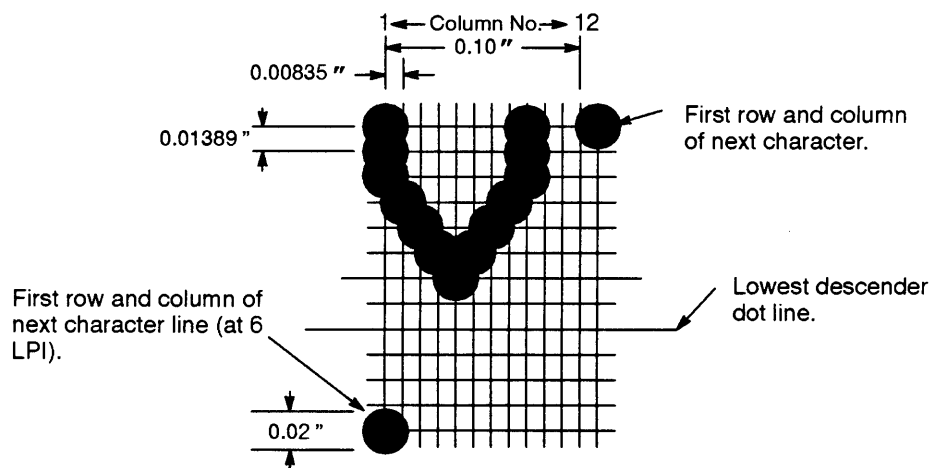

Figure 3–1. A Dot Matrix
Every text character is stored in memory as a pattern of dots on a logical grid called the *dot matrix*. (See Figure 3–1.) The actual ink dots are made by a row of hammer springs mounted on a shuttle that sweeps rapidly back and forth. Printer logic divides every printable line into horizontal dot rows. The hammer springs put dots at the required positions for the entire line by striking a moving ink ribbon and the paper.
The dot patterns of characters vary depending on the font to be printed. For example, in the data processing (DP) font at a line spacing of six lines per inch (lpi), the dot matrix contains 12 dot rows from the top of one character line to the top of the next. (See Figure 3–1 and Figure 3–2.) At eight lpi there are nine dot rows per character line, at nine lpi eight dot rows per character line, and so on.